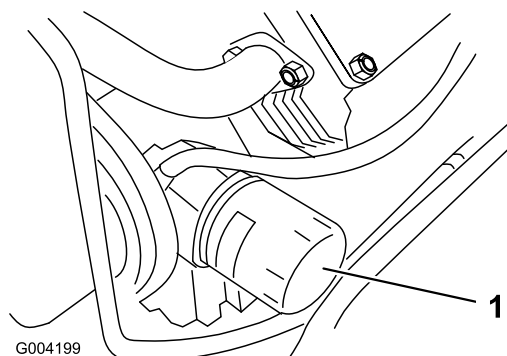

Figure 30
3. Remove the old filter (Figure 30) and wipe the surface of the filter adapter gasket.